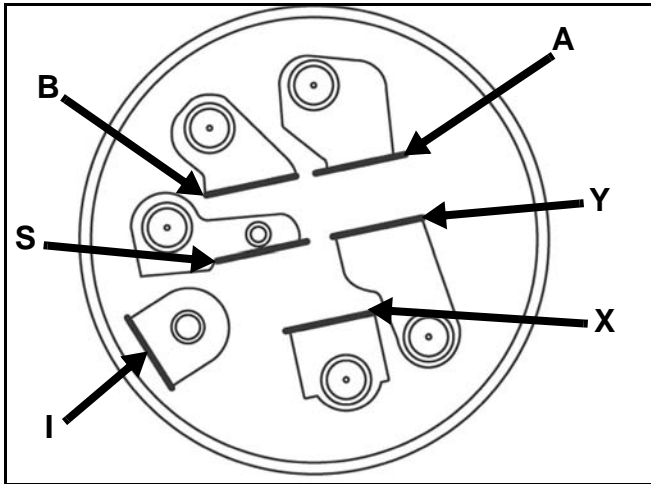

Figure 27
2. Verify that continuity exists between the terminals listed for the switch position. Verify that there is NO continuity between terminals not listed for the switch position (Figure 27).